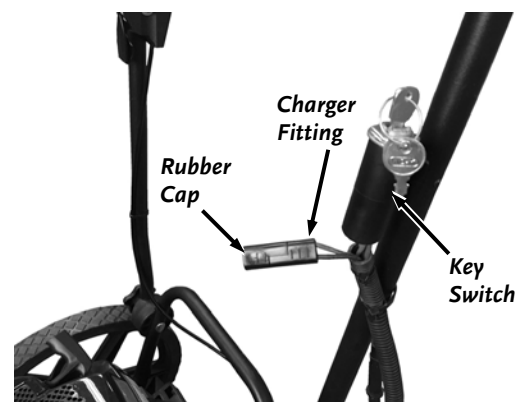

Figure 46
1. Remove the Rubber Cap from the Charger Fitting located near the Key Switch (**Figure 46**).